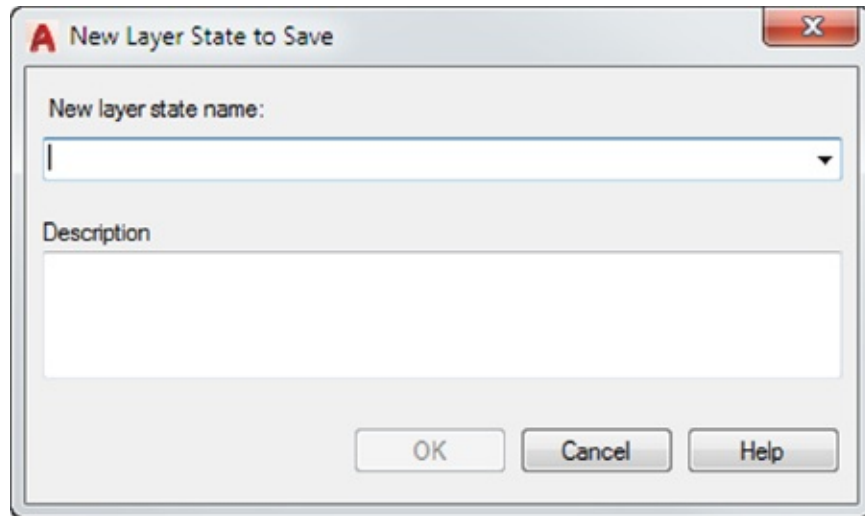

FIGURE 14.16 The New Layer State To Save dialog box
4. You're ready to save the current layer state. Click the New button in the Layer States Manager dialog box. The New Layer State To Save dialog box opens (see Figure 14.16).